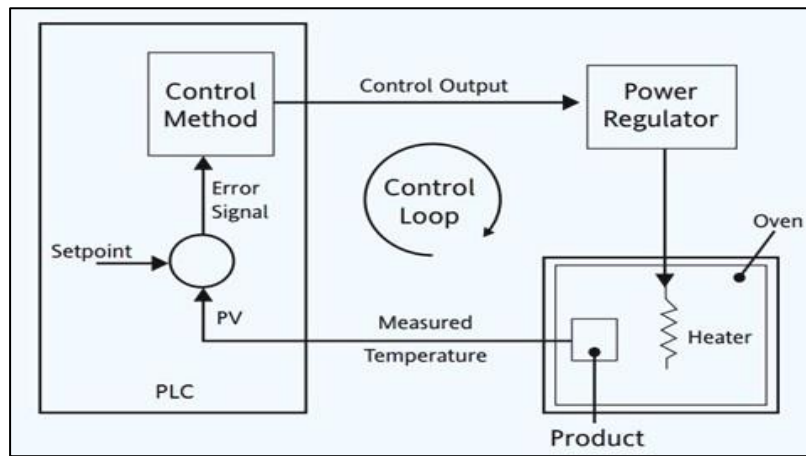

Fig.24 Temperature control system
1. Design a temperature control system by different types of sensors for fig.24 using ladder diagram in terms of concepts.